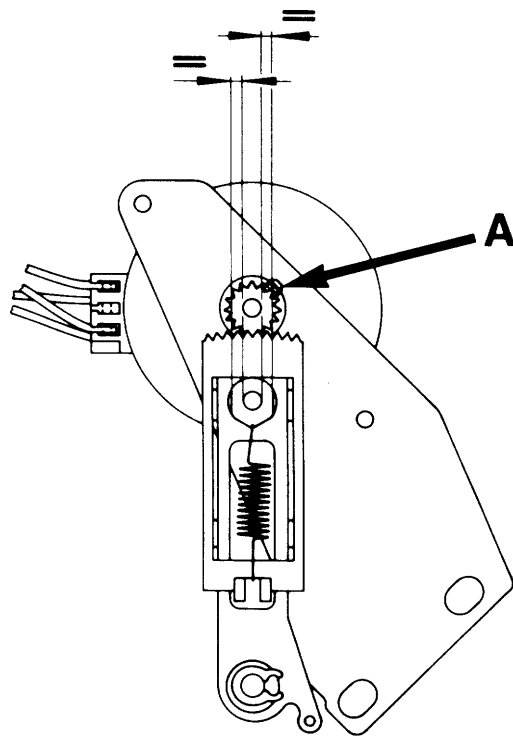

Fig. 2
Loosen screw (A) and place the cog segment in such a way that pin (B) arrives in the middle of the opening of the cog segment (see fig. 2).